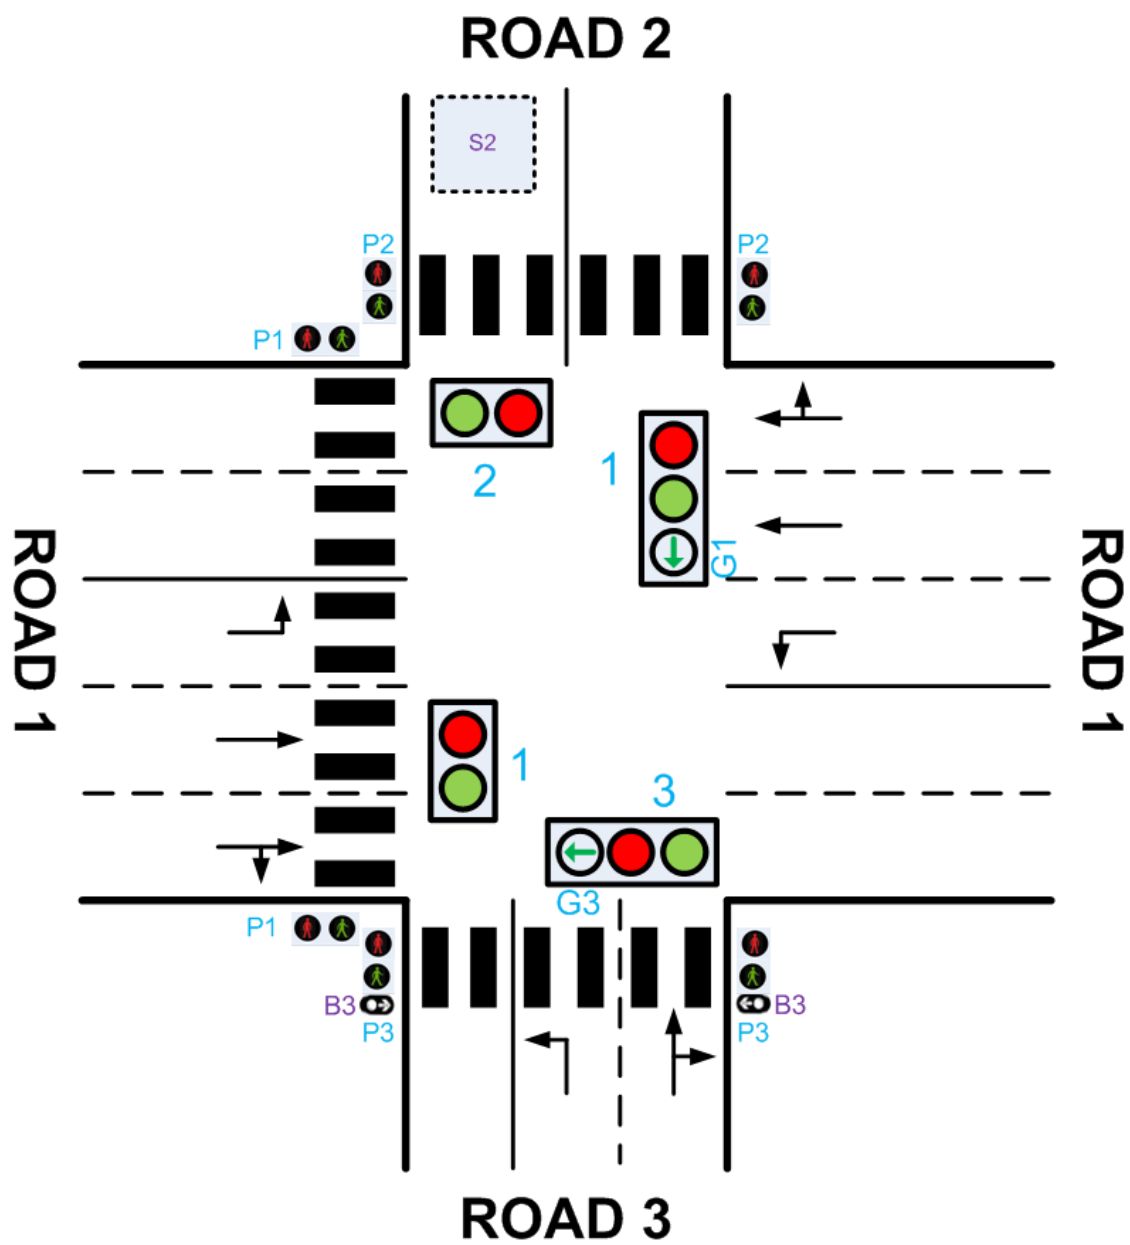

Figure 1: INSERT CAPTION HERE
*Labels **1,2,3,P1,P2,P3,B3,S2,G1,G3** can be found in Figure 1.*
- Labels **1,2,3,P1,P2,P3,B3,S2,G1,G3** are defined on page 2 and in Figure 1 on page 1.